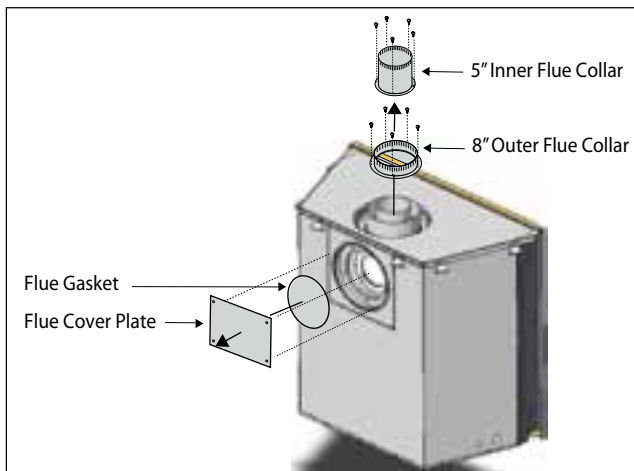

Figure 9. Flue cover and collar removal, *Top Vented fireplace.*
1. Remove the Rear flue cover and gasket (5" and 8") on the flue outlet, as shown in **Figure 9**.
2. Next, Remove the Top flue collar's (5" and 8") on the flue outlet, as shown in **Figure 9**.